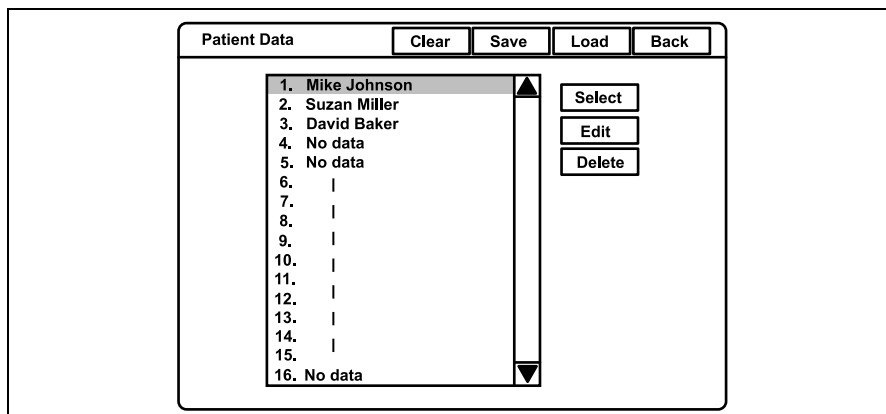

Figure 5.88
7. After finishing entering the data, click "Back" to return to the patient name list (see Figure 5.88).